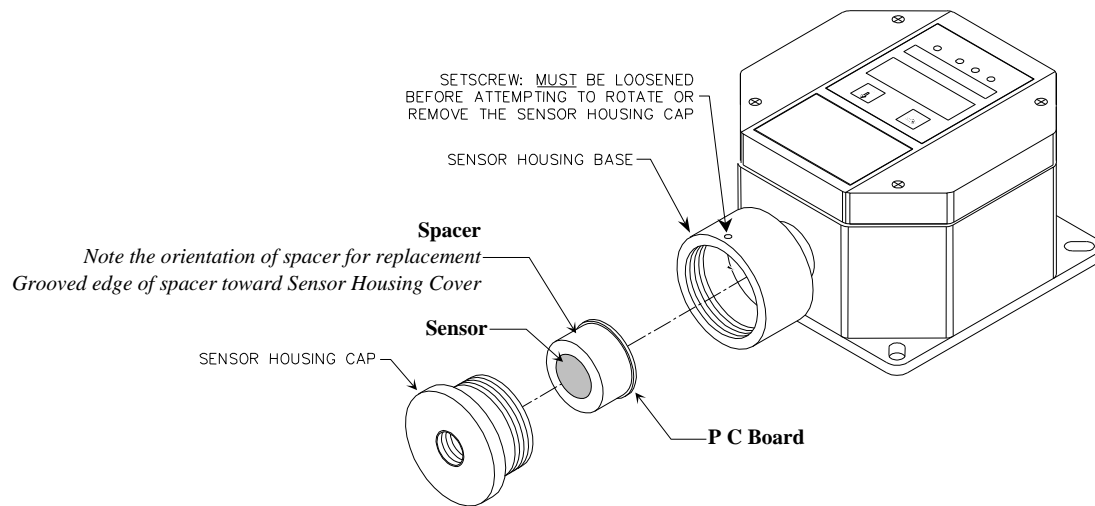

Figure 7: SE-5155 MOS Sensor Replacement
1. Remove, the set screw from **SE-5155 MOS** sensor head, and remove sensor cap. See Figure 7
2. Remove, the sensor assembly, see **Figure 7**.